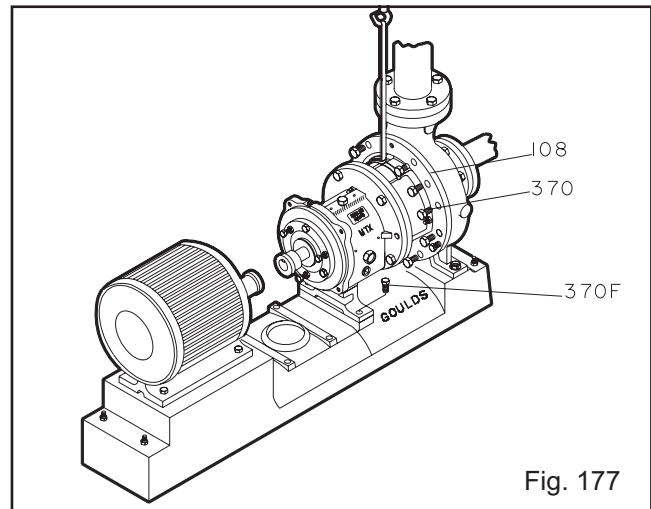

Fig. 177
4. Install casing bolts (370), finger tight. Casing bolts (370) may be coated with anti-galling compound to aid disassembly. Tighten the casing bolts per *Table 9* torque values. Install casing jack screws (418), snug tight (Fig. 177).